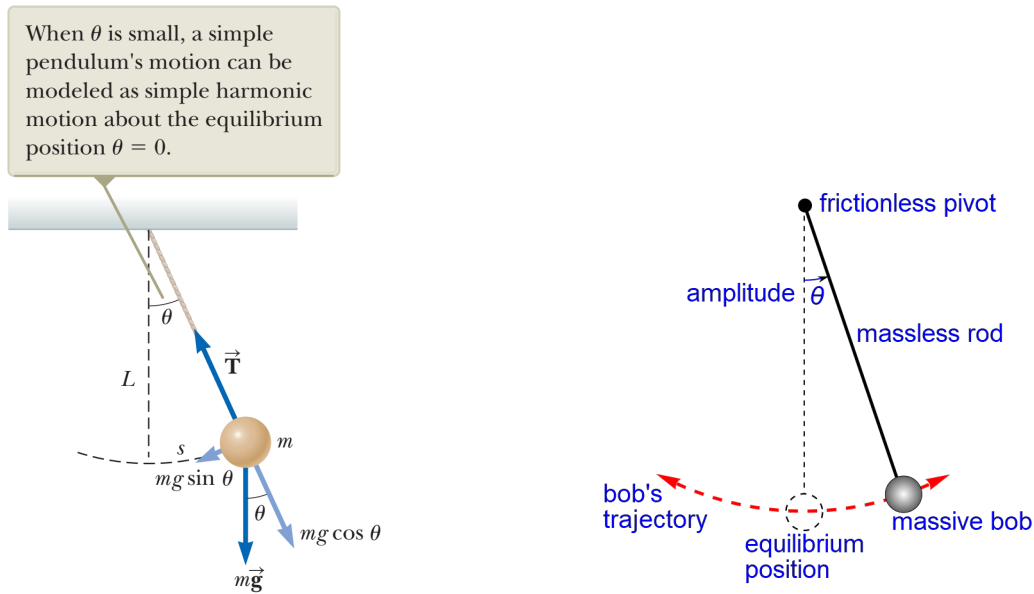

Figure 4.1: A typical pendulum. Courtesy of *Wikipedia* and *Physics for Scientists and Engineers With Modern Physics*, Serway and Jewett
Many of such oscillations can be considered as *small oscillations* which are much simpler to analyze mathematically. In this type of motion, an object moves back and fourth around a position called the *equilibrium* under a *restoring force* F . The equilibrium point is where no restoring force acts on the object, i.e., $F = 0$. The force itself is called restoring since it always pulls (pushes) the object back towards the equilibrium. Examples of such motion are the oscillations of a mass connected to a spring, which at its initial configuration, is pushed or pulled away from its equilibrium position, and then released. Another example which we study in this experiment is the motion of a pendulum pulled away from its equilibrium vertical configuration (Fig. 4.1).
A (idealized) pendulum consists of a bob of mass m and a massless string or rod connecting it to a fixed point (e.g., ceiling). Initially the string is vertical and the bob is at rest at its equilibrium position (Fig. 4.1). The bob is then pulled to one side to an initial angle θ_0 . This angle is the maximum angle that the bob will gain with respect to the vertical line and is called the *amplitude* of the oscillation. Note that in this case the amplitude is not a length, but an angle. At any angle θ from the vertical called *displacement* (note the difference between displacement θ and the amplitude θ_0 ; amplitude is the *maximum* displacement), a restoring force
Looking at Fig. 4.1, we see that Newton's second law
Step 2 Connect/tie the other side of the string to a place (pivot point, see Fig 4.1) such as a door knob, hangar in your closets, etc., such that pendulum can oscillate freely with least possible friction at the pivot point.